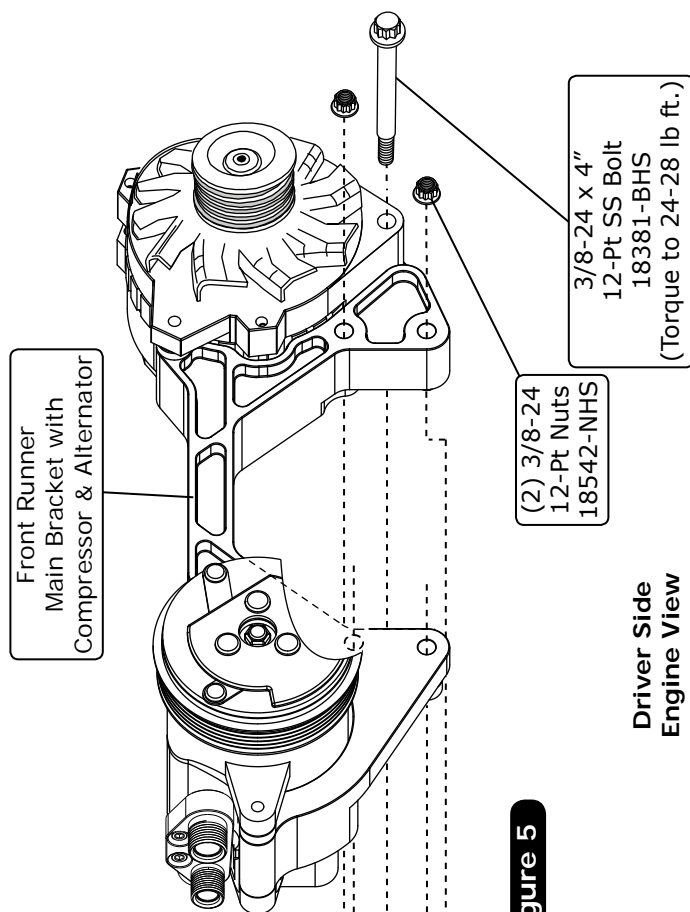

Figure 5
1. Slide the Front Runner main bracket assembly over the water pump mounting studs (See Figure 5, Page 10).
2. Secure the driver side of the assembly using (2) 3/8-24 12-Pt nuts (See Figure 5, Page 10).